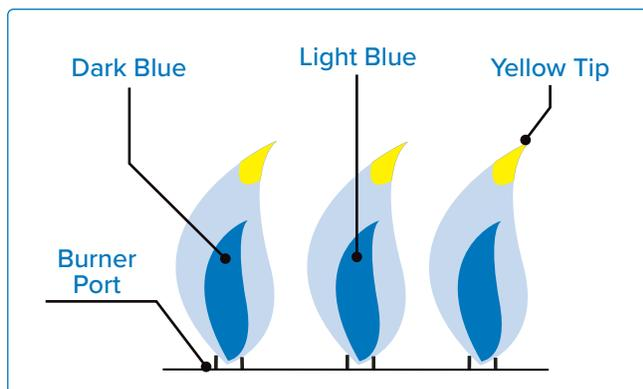

Fig. 27
- Too little air will cause yellow, sooty, lazy flames (see Fig 27).